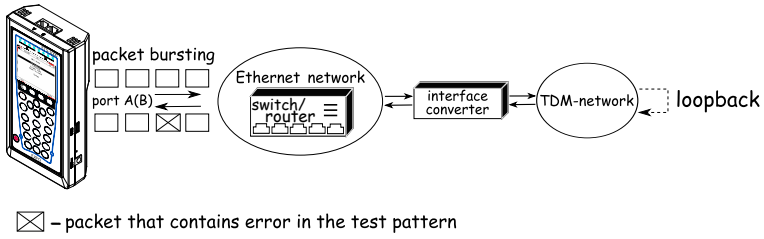

Figure 5.82. Data link/Network layer testing (scheme 1)
- At the **Network layer**, all data is encapsulated into IP packet, and then — into Ethernet-frame thus allowing to transmit test packets through a network with both OSI's second- and third-layer equipment (for example, network switch, network router). Possible connection schemes are shown on fig. 5.82, 5.83, and 5.84.
- At the **Transport layer**, test data is encapsulated into an UDP header, then — into IP header and an Ethernet frame thus allowing to transmit test pattern using transport protocols. Possible connection schemes are shown on fig. 5.82, 5.83, and 5.84.